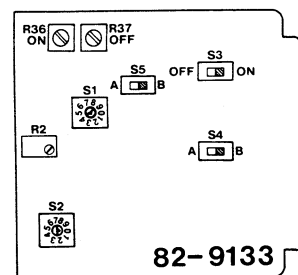

figure 2. Option locations
2.06 Five option switches and three user-adjustable potentiometers condition the operation of the 9133. Locations of these controls are shown in figure 2. After these controls are set, no further optioning or alignment of the module is required.